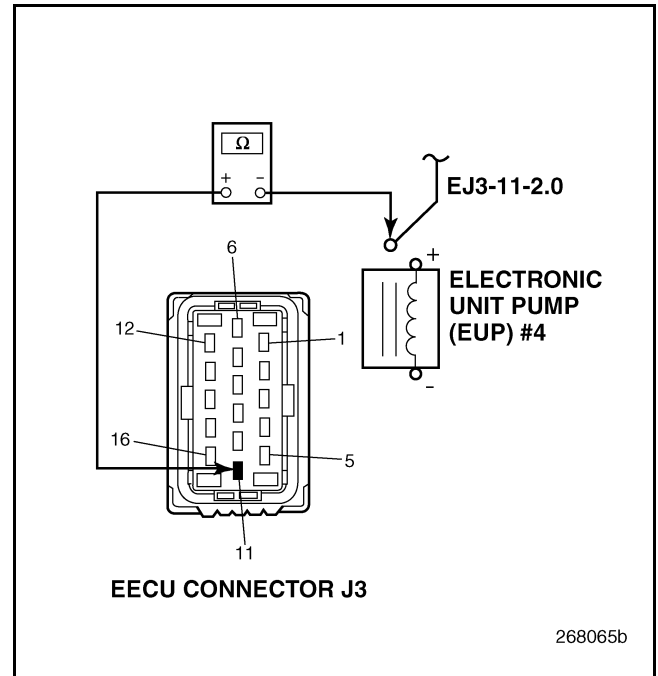

Figure 771
4. Check for continuity between EECU harness connector J3 pin 11 and circuit EJ3-11-2.0 at EUP Solenoid 4 (see Figure 771).